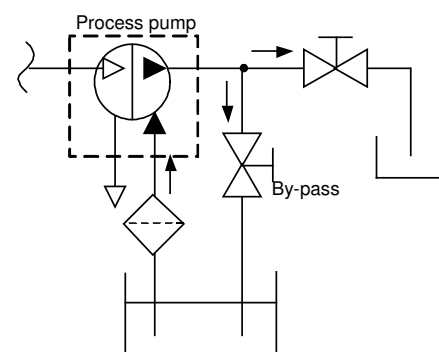

Fig.8 Piping diagram of automatically operated type
#### Automatically operated type (Fig. 8)
<Starting and Stopping> Refer to circuit example (1) Fig.8